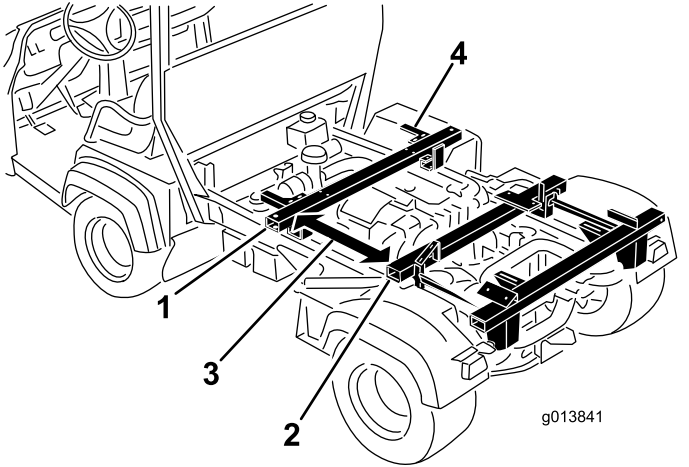

Figure 7
1. Align the 2 L-bracket of the front cross member toward the front of the machine (Figure 7).
2. Position the front cross member onto the vehicle frame so that the cross member is 76 CM (30 inches) in front of the center cross member (Figure 7).